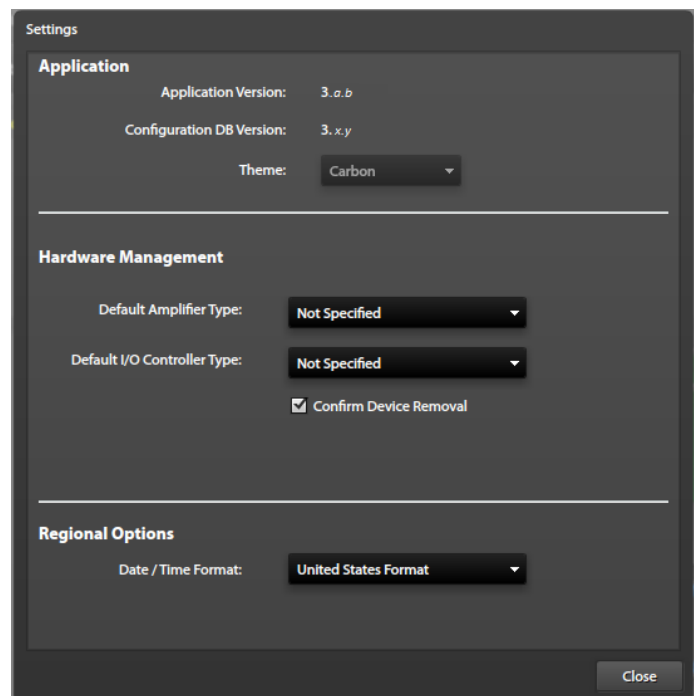

Figure 11. Application Options
**Settings**—Provides application and database version information and facilitates setting options in the console software (see Figure 11).